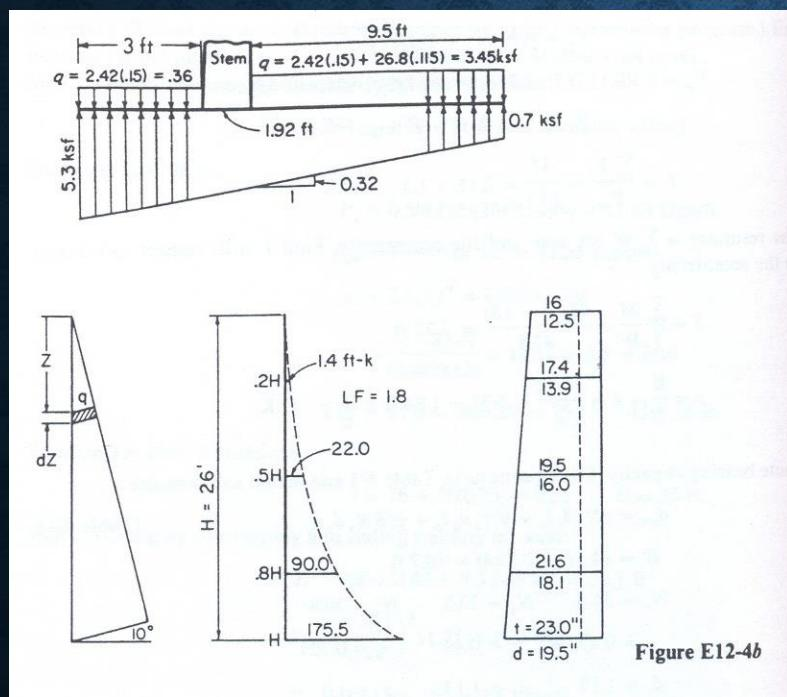

Figure E12-4b
Step 4 Compute base-slab shear and bending moments. Refer to Fig. E12-4b.